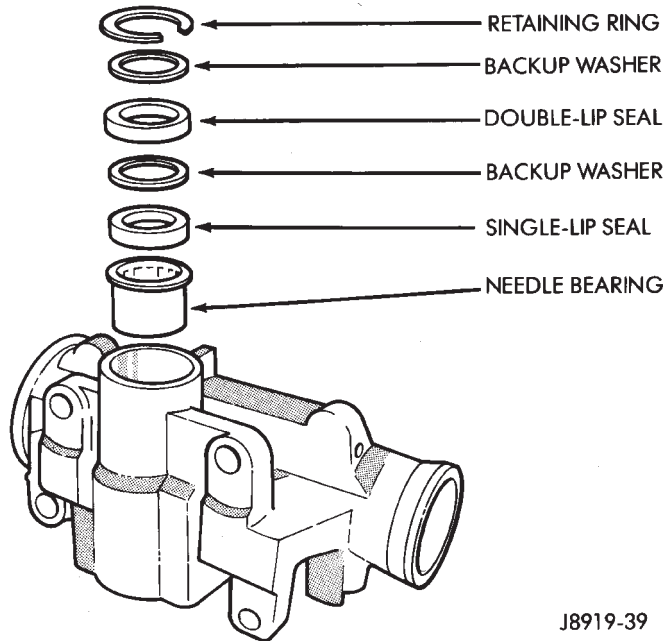

Fig. 2 Pitman Shaft Seals
- (1) Remove pitman arm from gear. Refer to Pitman Arm Removal in Steering Linkage.
- (2) Clean exposed end of pitman shaft and housing. Use a wire brush to clean the shaft splines.
- (3) Remove retaining ring with snap ring pliers (Fig. 2).